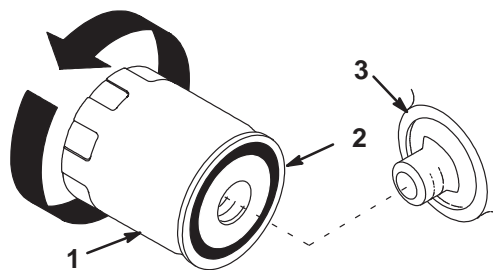

Figure 21
9. Change the oil filter, if necessary (Fig. 21).
2. Remove the old filter and wipe the filter adapter gasket surface (Fig. 21).
3. Apply a thin coat of clean oil to the rubber gasket on the replacement filter (Fig. 21).
4. Install the replacement oil filter to the filter adapter. Turn the oil filter clockwise until the rubber gasket contacts the filter adapter; then tighten the filter an additional 1/2 to 3/4 turn (Fig. 21).